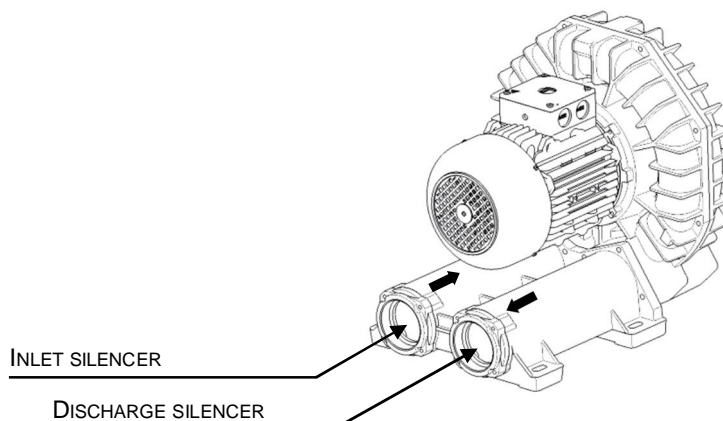

Fig 2
The inlet connection (fig. 2) is marked with an arrow pointing into the blower. Connect the inlet pipe here. The pumped gases are sucked in via this. Procedure: see Chapter 5.3.3.
The discharge connection con il relativo silenziatore (fig. 2) is marked with an arrow pointing out of the blower. Qui viene collegata la tubazione di mandata. Connect the discharge pipe here. The pumped gases are discharged via this. Procedure: see Chapter 5.3.3.
- . The gas delivery direction is marked with arrows on the inlet and discharge connections (fig. 2).